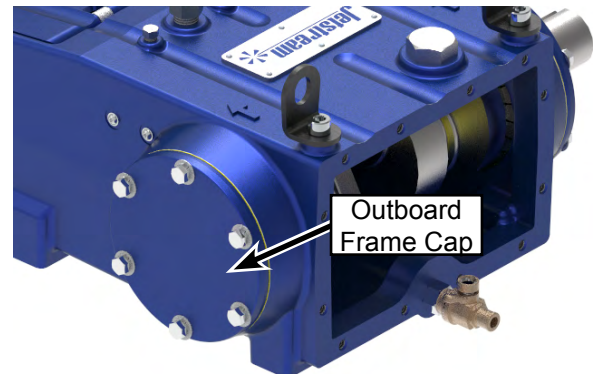

Figure 132: Remove Caps and Shims.
7. Remove the capscrews and washers that secure the outboard frame cap to the power frame. (Figure 132)
8. Remove the outboard frame cap and shims. Keep the shims together (Figure 132).